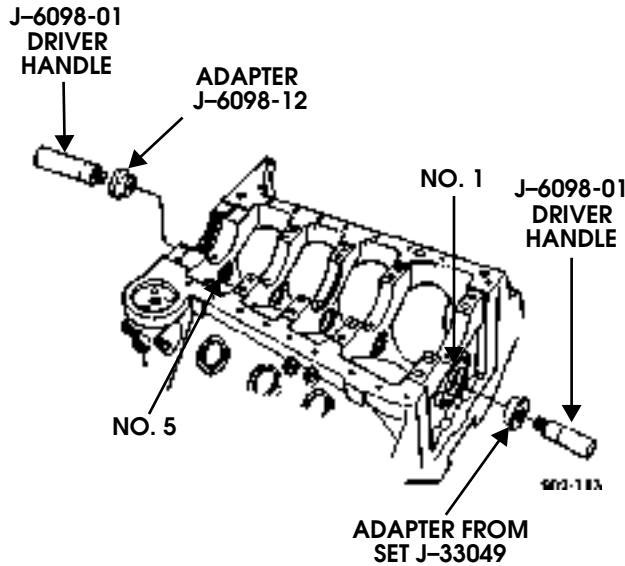

Figure 2-110: Removing Cam Bearings 1 and 5
4. Remove bearing No. 5 with driver handle from tool set J-6098-01 and adapter J-6098-12 (Figure 2-110).
5. Remove bearing No. 1 with driver handle and J-33049 (Figure 2-110).